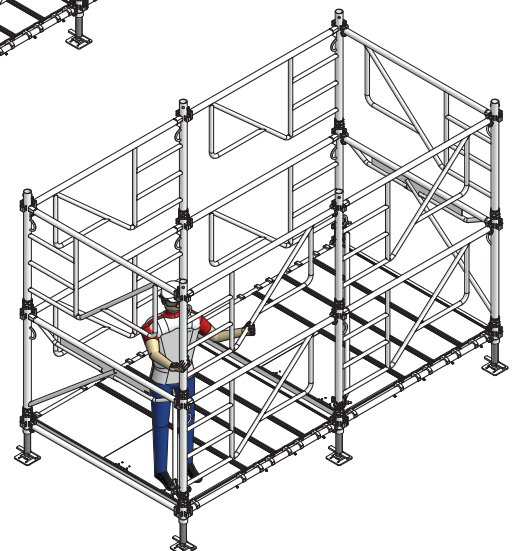

Fig. 15.4
11. Standing on the scaffold platform of level 0, suspend the frames 100 MT for level 2 (Fig. 15.4).